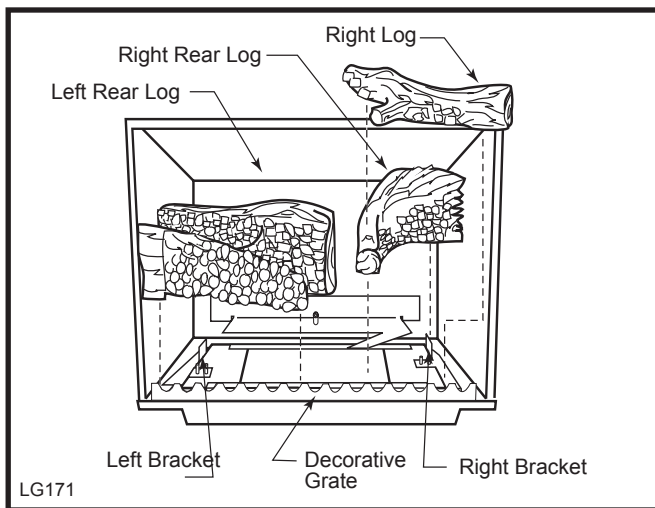

Fig. 23 Install the left and right rear logs and the right log.
2. Install the rear left log by placing it on the sheet metal shelf at the back of the firebox. (Fig. 23) The log should touch the back wall of the firebox. Slide the log to the left until the left side lines up with the left bracket. (Fig. 23) When the log is in place the left front corner of the log should rest on the decorative grate.
3. Install the rear right log by placing it on the sheet metal shelf at the back toward the right. Make sure the right side of the log lines up with the right bracket. (Fig. 23) **NOTE:** When the right and left rear logs are in place, they should touch the back of the firebox and each other.
4. Install the right log by engaging hole on the bottom with pin on the right rear log. (Fig. 23) Set the bottom of the log on the bracket and bring forward to come in contact with decorative grate on right.